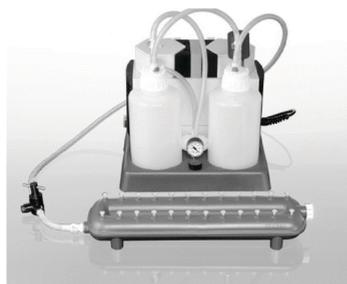

Figure 2. QIAvac 24 Plus, QIAvac Connecting System, and Vacuum Pump.
QIAamp Mini columns are processed on the QIAvac 24 Plus using disposable VacConnectors and reusable VacValves. VacValves (optional) are inserted directly into the luer slots of the QIAvac 24 Plus manifold and ensure a steady flow rate, facilitating parallel processing of different sample volumes. They should be used if sample flow rates differ significantly to ensure consistent vacuum. VacConnectors are disposable connectors that fit between QIAamp Mini columns and VacValves or between the QIAamp Mini columns and the luer slots of the QIAvac 24 Plus. They prevent direct contact between the spin column and VacValve during purification, thereby avoiding any cross-contamination between samples. VacConnectors are discarded after a single use. Due to the large solution volumes used, the QIAvac Connecting System (or a similar setup with waste bottles) is required (see Figure 2).
- The vacuum pressure is the differential pressure between the inside of the vacuum manifold and the atmosphere (standard atmospheric pressure 1013 millibar or 760 mm Hg) and can be measured using the QIAvac Connecting System (see Figure 2). The protocols require a vacuum pump capable of producing a vacuum or -800 to -900 mbar (e.g., QIAGEN Vacuum Pump). Higher vacuum pressures must be avoided. Use of vacuum pressures lower than recommended may reduce nucleic acid yield and purity and increase the risk of clogged membranes.